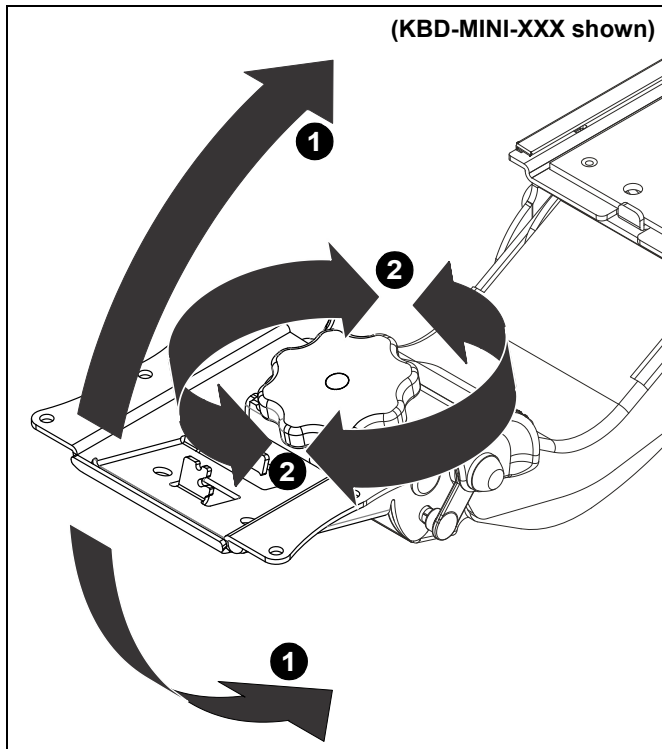

Figure 5
1. Lift mechanism arm up or down until desired height is reached. (See Figure 5)
2. Turn tilt knob to adjust keyboard tray tilt. (See Figure 5)